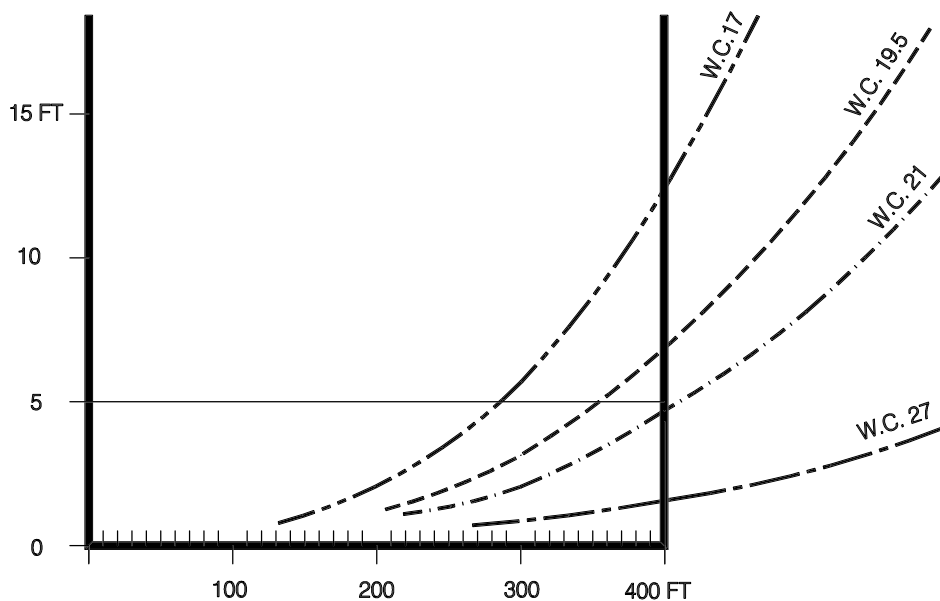

Figure D.2
2. Use this SDR to determine the working curve to be used for each pipe size from the working curve nomograph. See Figures D.2 and D.3. Lay a ruler along the diagonal line for the appropriate SDR as determined above. At the point where this line intersects the horizontal line for the actual internal diameter of the pipe being used, read off the working curve to be used on the working curve axis. Internal diameters for PVC pipes are given in Table D.1.
Keeping the axes aligned trace the working curves #17, 19.5, 21 and 27 onto the tracing paper as shown in Figure D.2